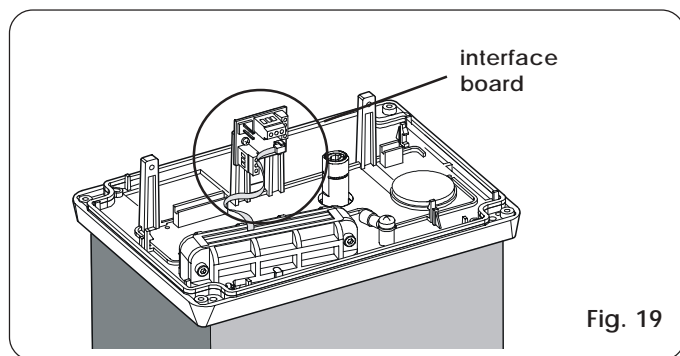

Fig. 19
- Assemble the chain as shown in Fig. 19.